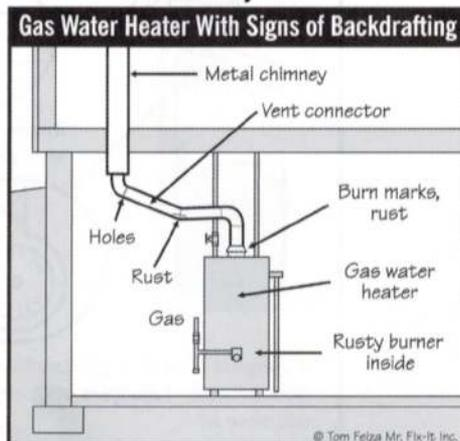

Figure 4
- Check gas-fired appliances (furnaces and water heaters) to make sure they are drafting properly up the chimney. A backdraft would release carbon dioxide and water vapor into the home. See Figure 4.